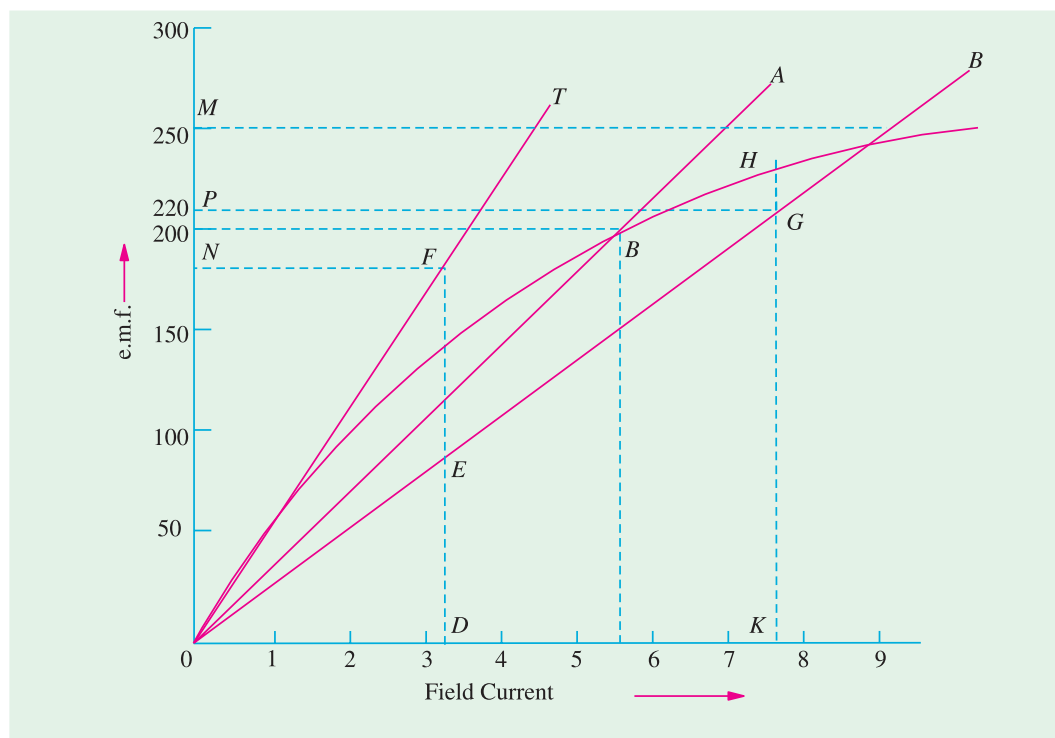

Fig. 28.13
**Solution.** The O.C.C. as plotted from the given data is shown in Fig. 28.13. The  $34\text{-}\Omega$  line  $OA$  is drawn as usual.